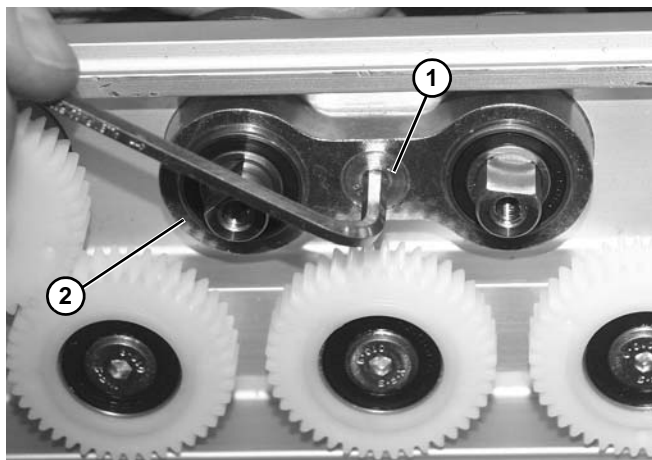

Figure 43
7. Remove screw (**Figure 43, item 1**) from center of bearing assembly (**Figure 43, item 2**).